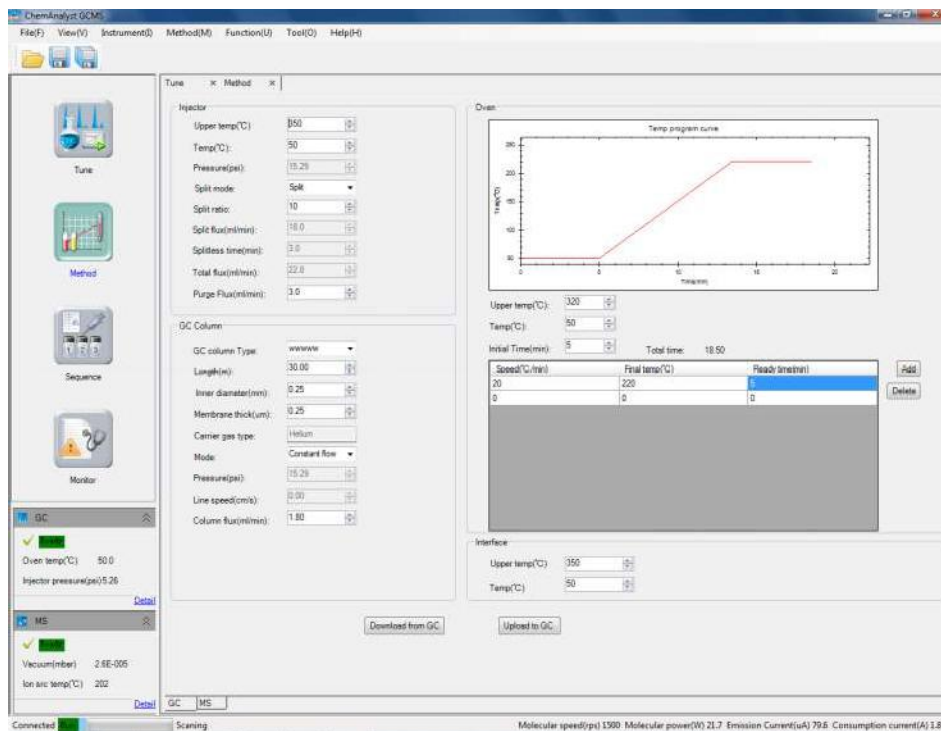

Figure 5-2 GC Method Setting Panel
- (1) Click [Method] to go to the GC method setting page, as shown in Figure 5-2.
- (2) Click [Retrieve from GC] to get the set value and real-time values from GC.
- (3) Set related parameters.
- (4) Click [Download to GC], the set value on the current page can be downloaded to GC.
- (5) Click [Retrieve all], all set value on GC panel can be received by the software.
- (6) Click [Download all], all set value on GC panel can be r downloaded to GC.